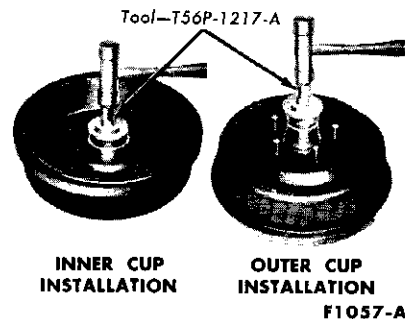

FIG. 2—Front Wheel Bearing Cup Installation
bearing cups in the hub with the tool shown in Fig. 2. **Be sure to seat the cups properly in the hub.**
15. Place the inner bearing cone and roller in the inner cup, and install the grease retainer with the reverse end of the tool shown in Fig. 2. **Be sure that the retainer is properly seated.**